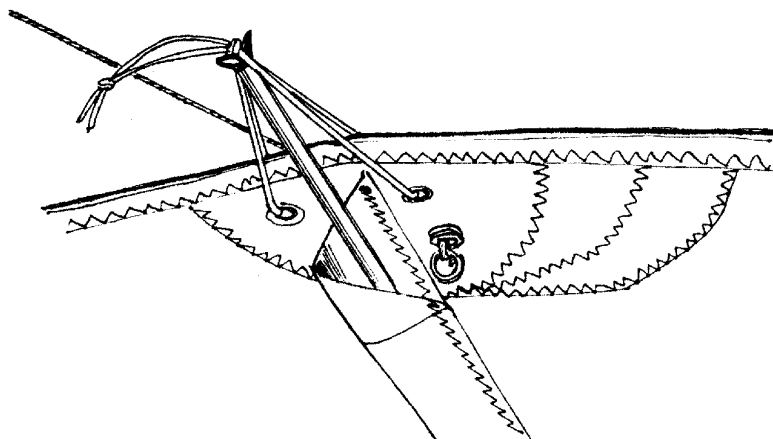

Fig.36
2.4.6. Check that each of the luff lines is free from the batten tension leech lines and the luff line safety ring is flush with the bottom of the sail (Fig.36).